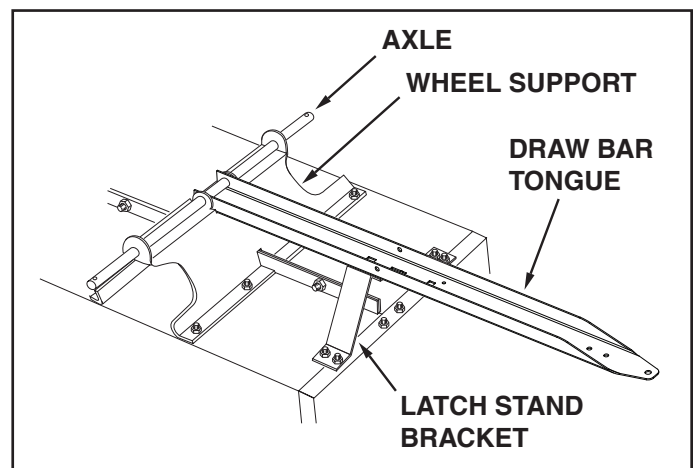

FIGURE 9
- lower the cart to rest upside down on its top flanges, with the wheel support facing up. See figure 9.
- Lay the drawbar tongue (open side facing up) onto the wheel support and the latch stand bracket. Assemble the axle through the wheel support and the tongue. See figure 9.